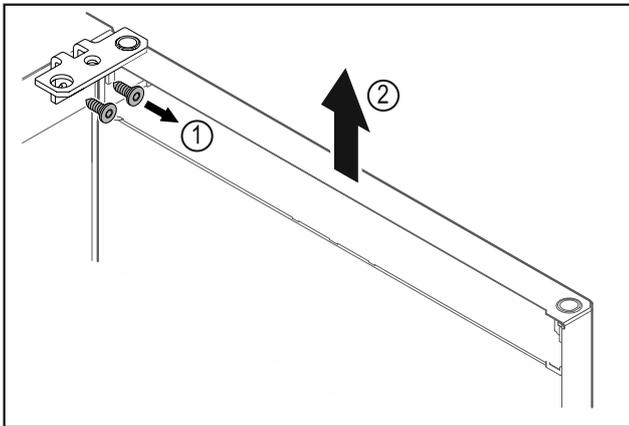

Fig. 12
- ▶ Unscrew the hinge Fig. 12 (1).
- ▶ Lift the door with the hinge straight up by Fig. 12 (2) roughly 200 mm and take it off.